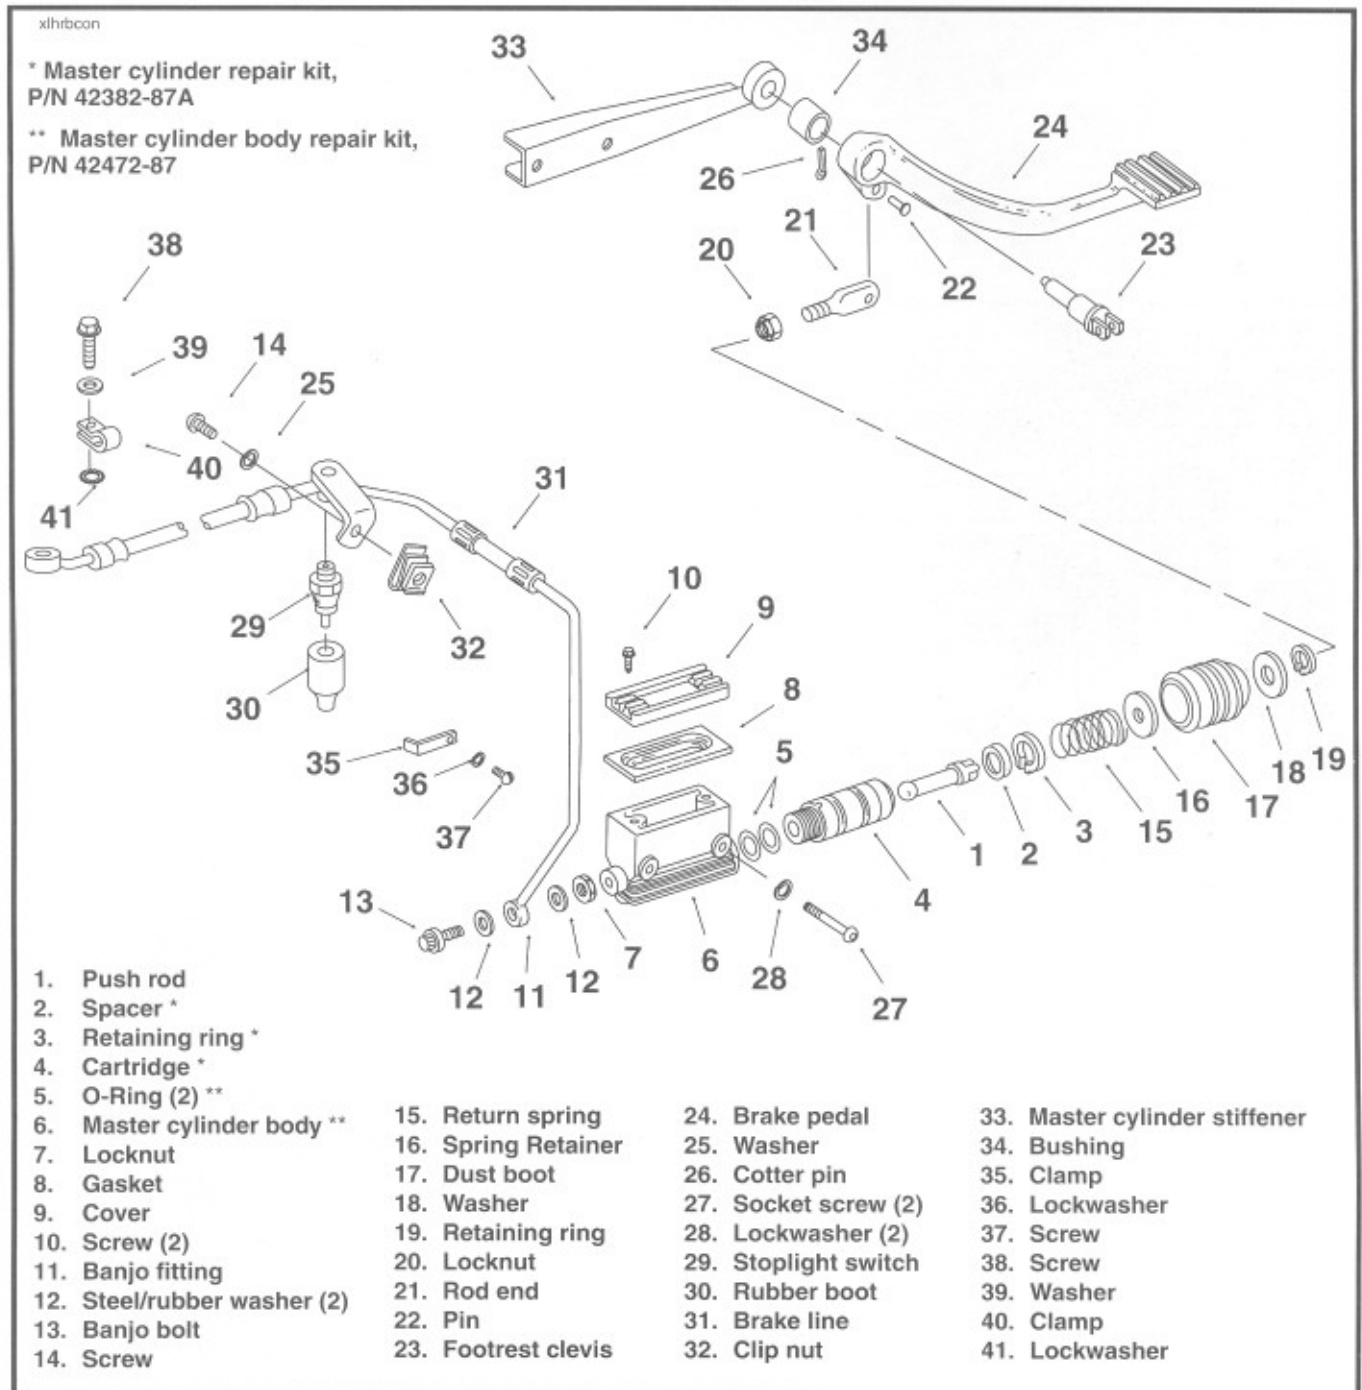
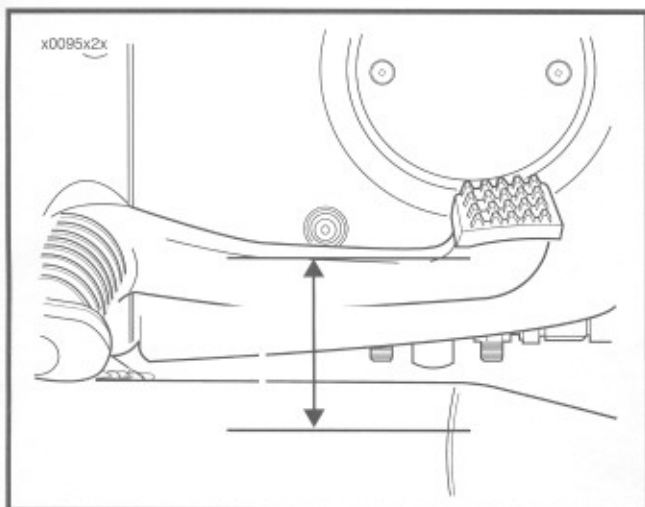

Figure 2-47. Rear Brake Master Cylinder and Linkage
Figure 2-48. Rear Brake Pedal Adjustment
See Figure 2-47. Loosen locknut (20). With motorcycle on level surface, adjust push rod (1) so that brake pedal is parallel with floor (see Figure 2-48). Tighten locknut.
REMOVAL/DISASSEMBLY (Figure 2-47)
CLEANING, INSPECTION AND REPAIR (Figure 2-47)
1. See Figure 2-47. Insert original push rod (1) into bore at unthreaded end of cartridge (4). Install spacer (2) over end of push rod. Install retaining ring (3) in groove next to spacer inside cartridge bore. Slide two **new** O-rings (5) into external grooves on cartridge (4). Insert cartridge into master cylinder body (6). Align slot at top of cartridge with key in master cylinder body. Push cartridge through master cylinder body until cartridge bottoms in bore. Install locknut (7). Tighten locknut to 30-40 ft-lbs (41-54 Nm) torque.
2. Place protective shields over vise jaws and lightly clamp master cylinder body in vise with push rod (1) upright.
3. Place return spring (15) over push rod (1). Place spring retainer (16) on top of spring. Slip large I.D. end of dust boot (17) over retainer and spring. Seat the small I.D. end of boot against spring retainer (16). Be sure vent/drain hole in boot is at the bottom.
4. Place washer (18) on top of boot. Push down on washer to compress spring (15). With spring compressed, install **new** retaining ring (19) in groove of push rod (1).
5. Position master cylinder next to sprocket cover. Position **new** steel/rubber washers (12) on each side of banjo fitting (11). Insert bolt (13) through washers and banjo fitting. Thread bolt into cartridge and tighten to 17-22 ft-lbs (23-30 Nm) torque.
6. Position large I.D. end of dust boot (17) into groove in master cylinder body (6).
7. Install clamp (35), screw (37) and lockwasher (36) to secure rear brake line (31) to sprocket cover. Tighten clamp screw to 45-65 **in-lbs** (5-7 Nm) torque.
9. Turn push rod (1) at flats to thread on rod end (21).
10. Position master cylinder body (6) over mounting holes in sprocket cover. Secure with screws (27) and lockwashers (28). Tighten screws to 155-190 **in-lbs** (17.5-21.5 Nm) torque.
12. Adjust push rod until brake pedal is parallel with floor, as shown in Figure 2-48. Tighten locknut (20).